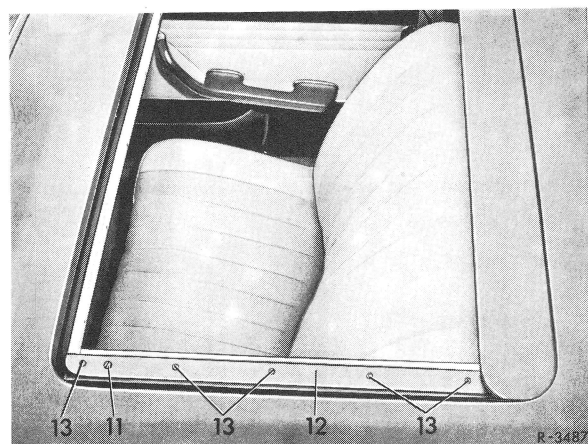

Fig. 1
- 1 Slightly loosen screws (13) for sliding rails.
- 2 Adjust both height adjusting screws (11) on sliding rails (12) in such a manner that the front edge of the closed sliding roof is 0 to 1 mm **lower** than the outer skin of the roof (Fig. 1).